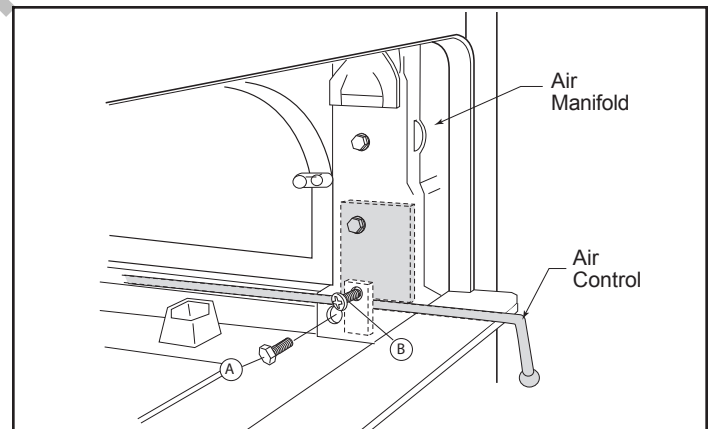

Figure 30 - Primary air control adjustment.
Over time, the air control may tighten or loosen. To adjust the tension on the control, let the stove cool to room temperature. Open the side-loading door and look in toward the inner side of the front panel of the stove. (Figure 30) Locate the lower hex head bolt (A) on the primary air manifold, just inside the door. Remove the bolt with an open end or box end wrench to gain access to the adjustment screw (B) inside the manifold. Insert a Phillips screwdriver into that hole and turn the screw clockwise to increase tension, counterclockwise to decrease tension. Make adjustments in small increments and test the operation. Replace the hex head bolt when you are done.